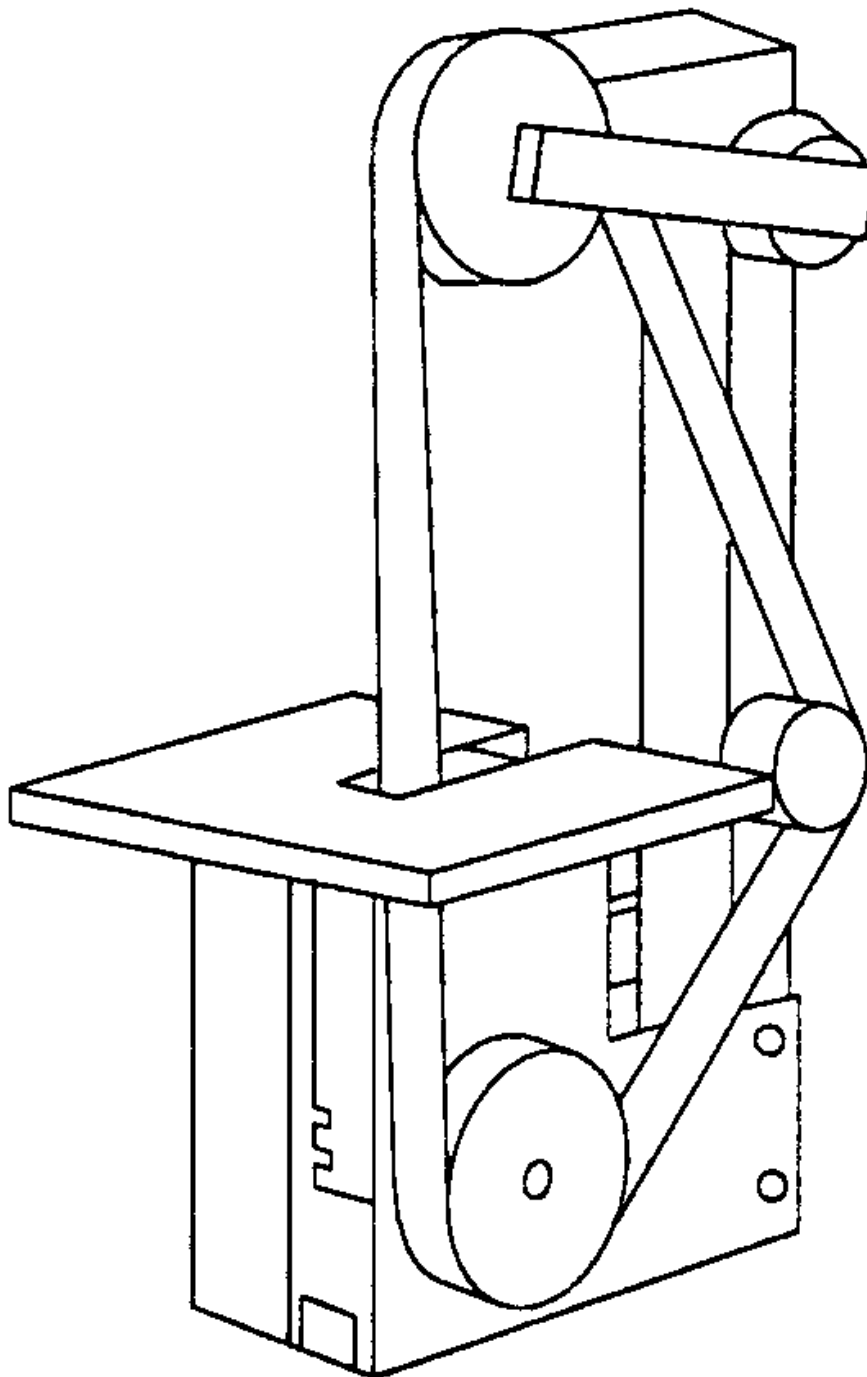

Figure 14 - Belt Sander
5.3.13 Belt Sander (see Figure 14)